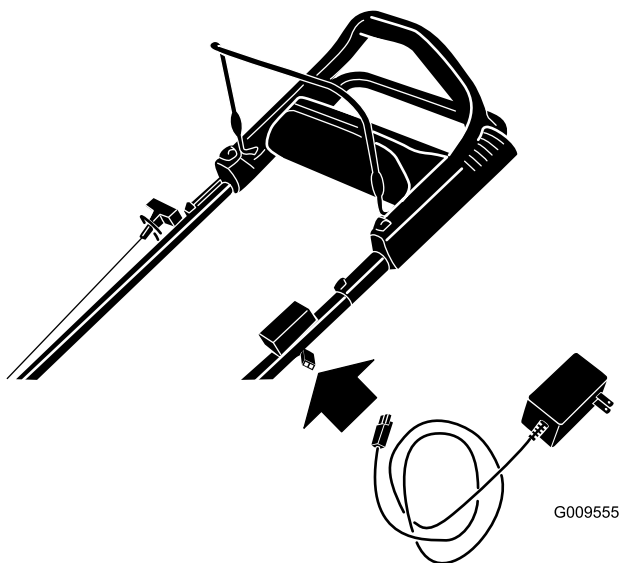

Figure 37
1. Connect the charger to the machine wire harness located below the ignition key (Figure 37).